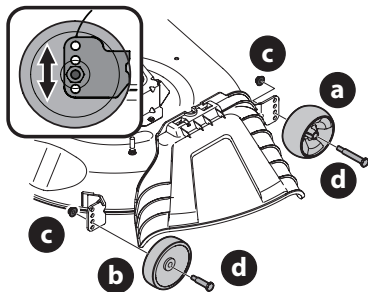

Fig. 20
- b. Remove the front (a) and rear (b) deck wheels by removing the flange lock nuts (c) and shoulder bolts (d) that secure them to the deck (Fig. 20).